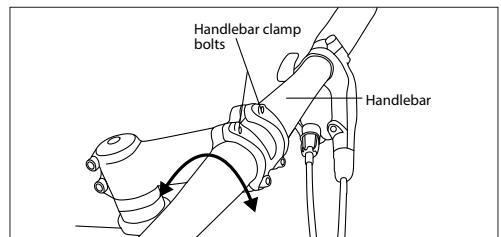

Fig. 47: Handlebar bolts on threadless stem
1. Decrease the tightness of the handlebar clamp bolts on the stem (Fig. 47).